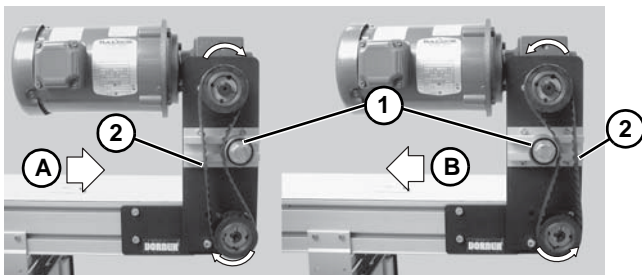

Figure 12
9. Depending on conveyor belt travel (direction A or B), locate timing belt tensioner (**Figure 12, item 1**) as shown. Tension timing belt to obtain 1/8" (3 mm) deflection for 6 lb (3 Kg) of force at timing belt midpoint (**Figure 12, item 2**). Tighten tensioner screw to 110 in-lb (12 Nm).
3. Depending on conveyor belt travel (direction A or B), locate timing belt tensioner (**Figure 12, item 1**) as shown. Tension timing belt to obtain 1/8" (3 mm) deflection for 6 lb (3 Kg) of force at timing belt midpoint (**Figure 12, item 2**). Tighten tensioner screw to 110 in-lb (12 Nm).
5. Depending on conveyor belt travel (direction A or B), locate timing belt tensioner (**Figure 12, item 1**) as shown. Tension timing belt to obtain 1/8" (3 mm) deflection for 6 lb (3 Kg) of force at timing belt midpoint (**Figure 12, item 2**). Tighten tensioner screw to 110 in-lb (12 Nm).